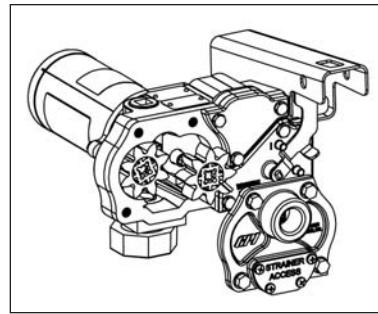

Figure 5
3. Lift the drive key and gears from the pump. (Figure 5)